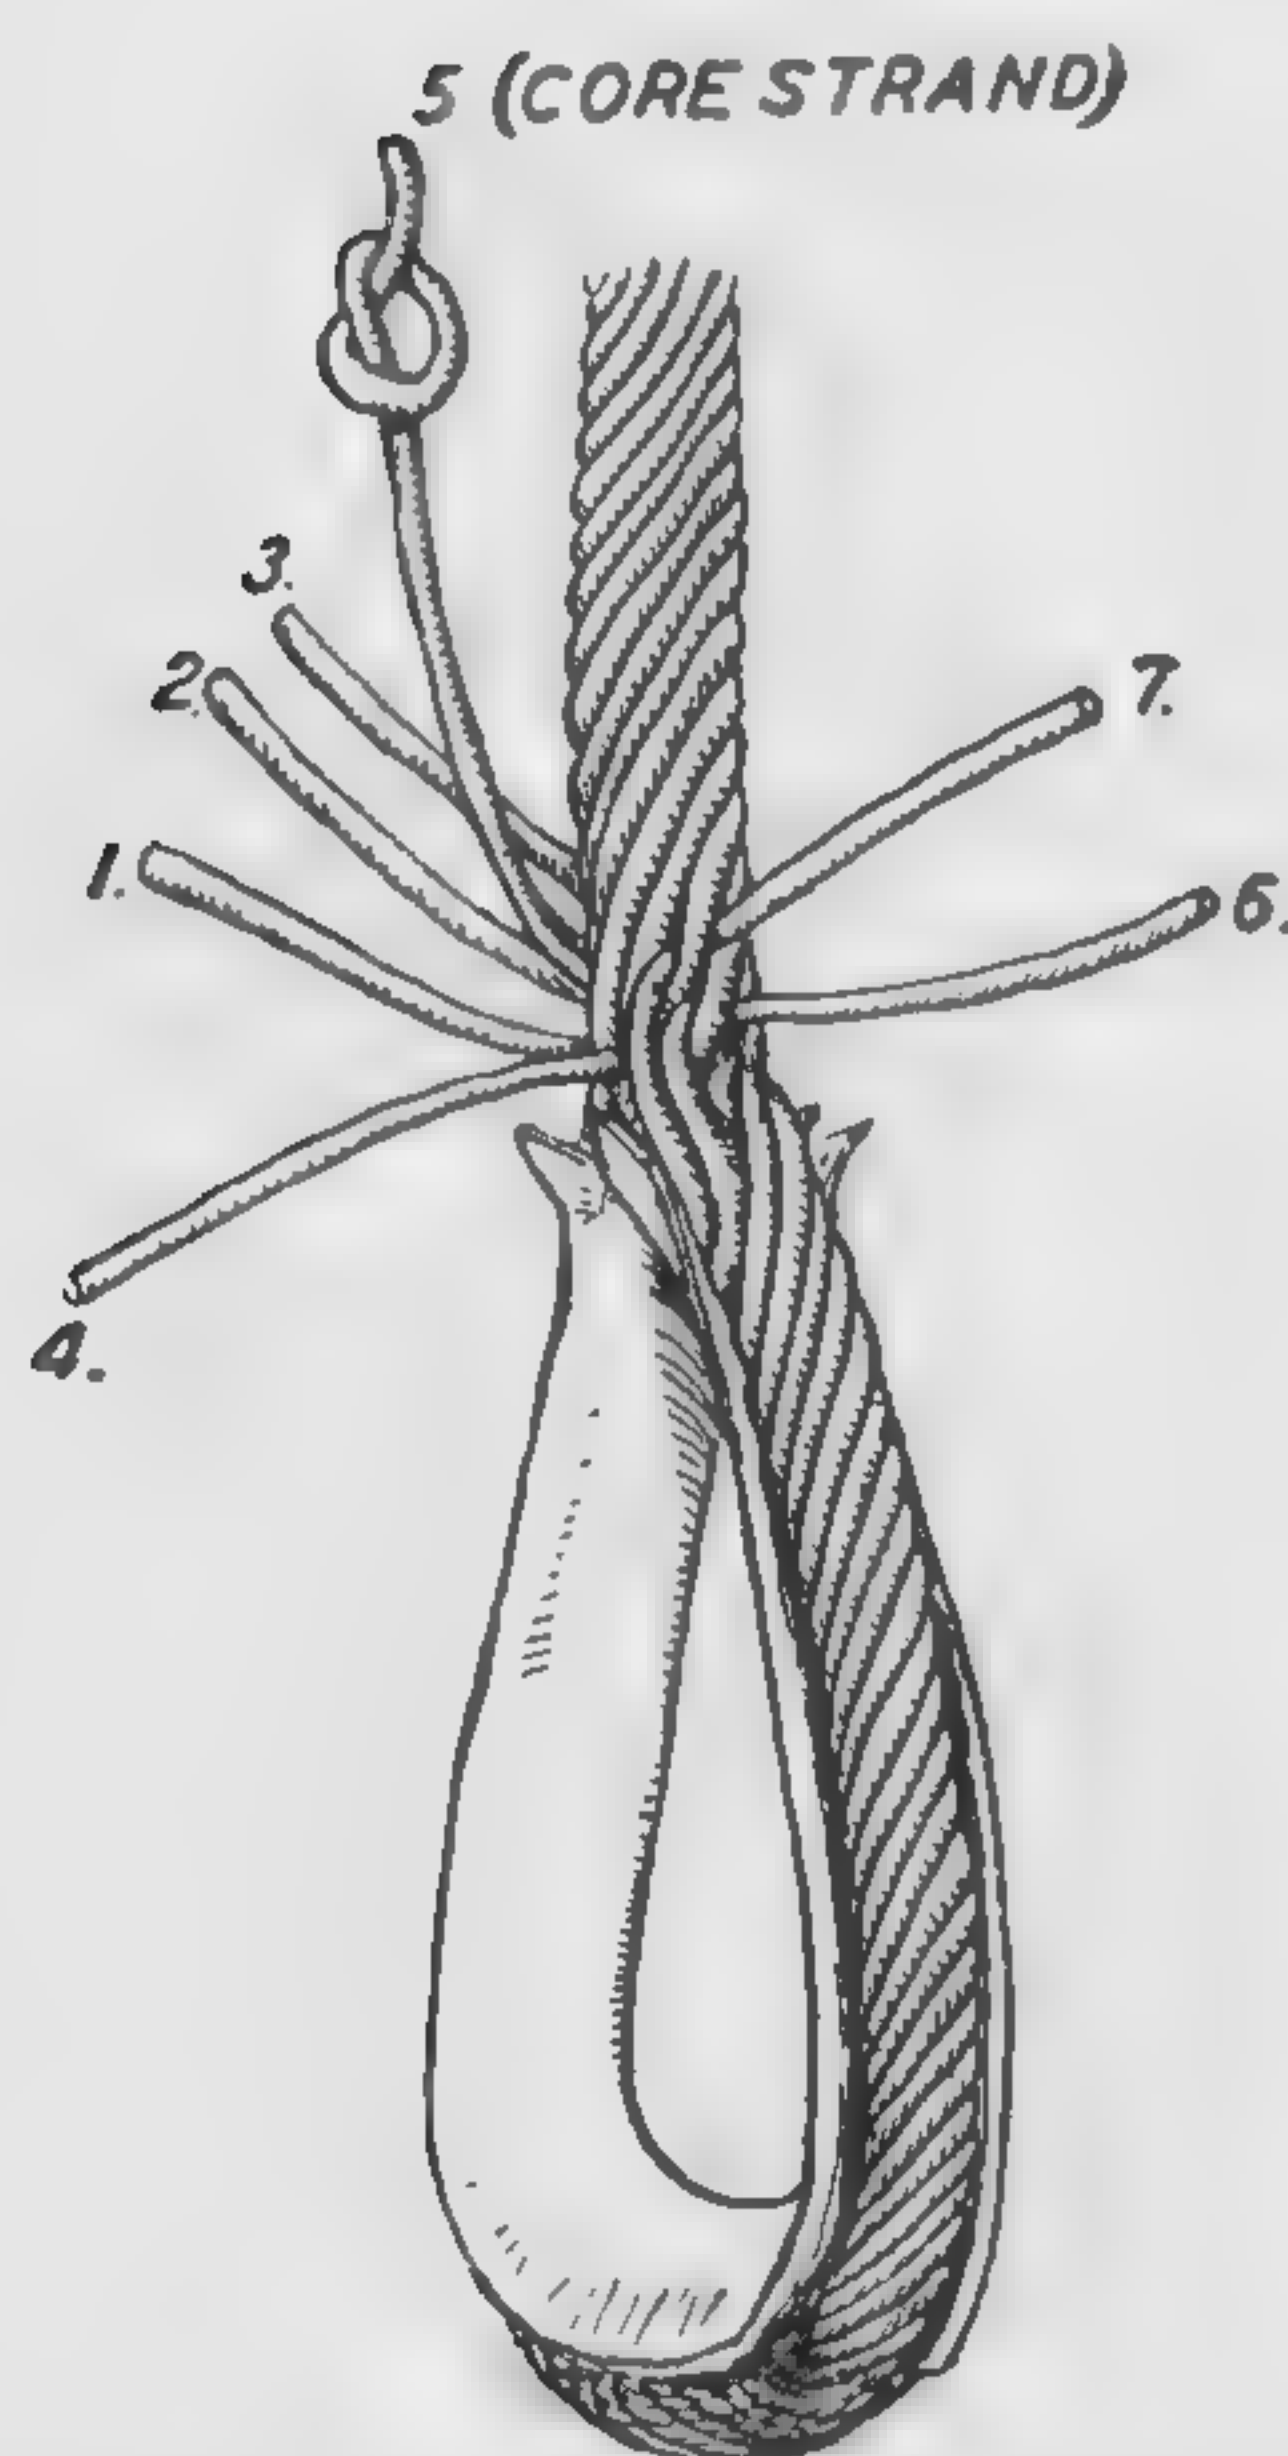

Fig. 19. Step 7 of the First Tuck
Step 7. The last strand is No. 7. Run No. 7 in the same direction as No. 6. It enters where No. 4 comes out, going left to right, as in Fig. 19. This completes the first tuck.